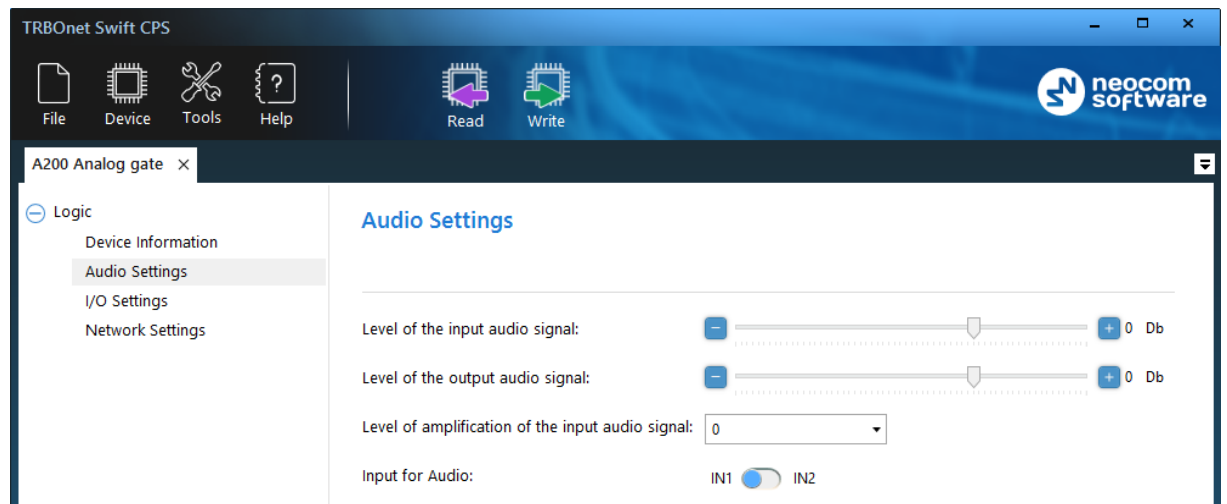

Figure 14: Configuring the audio signal
6. Click **Audio Settings** in the left panel. In the right panel (Figure 14):